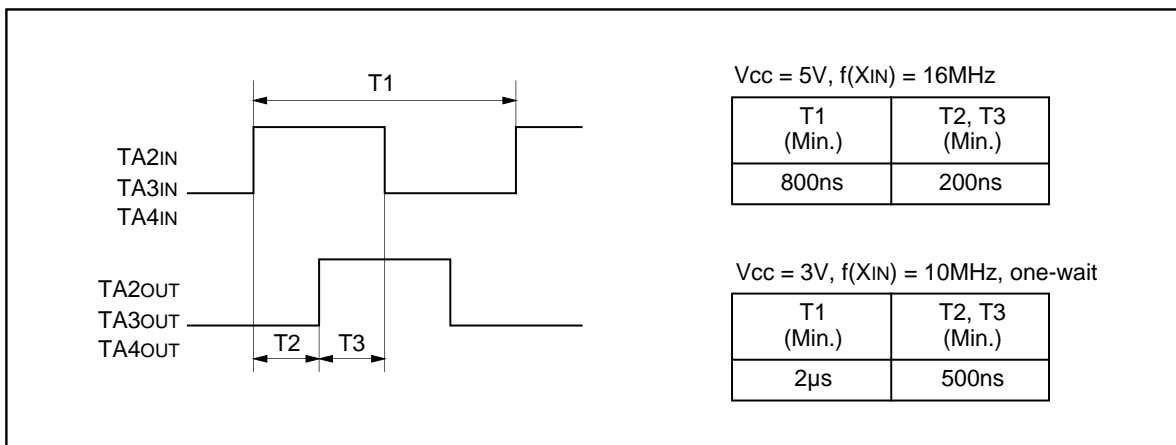

Figure 2.2.30. Standard of 2-phase pulses
- (3) Please note the standards for the differences between the 2 pulses used in the 2-phase pulse signals input signals to the TA_{2IN} pin and TA_{iOUT} pin (i = 2, 3, 4), as shown in Figure 2.2.30.
- (4) When free run type is selected, if count is stopped, set a value in the timer Ai register again.